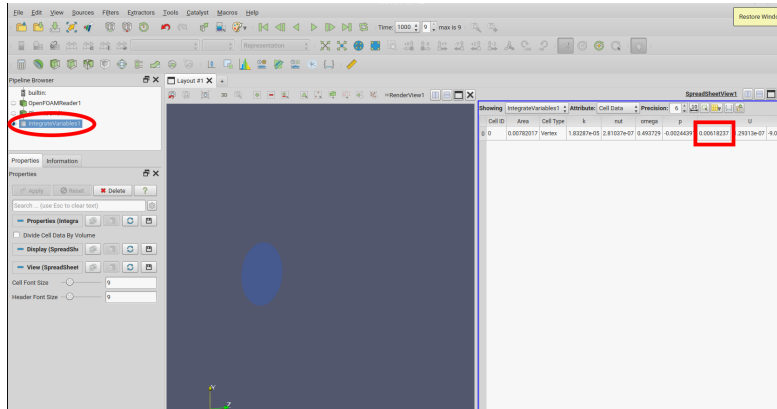

Figure 13: Computation of flow rate in `inletSecondary`
- * The flow rate is the integral of the component x of the velocity U (see Figure 13)